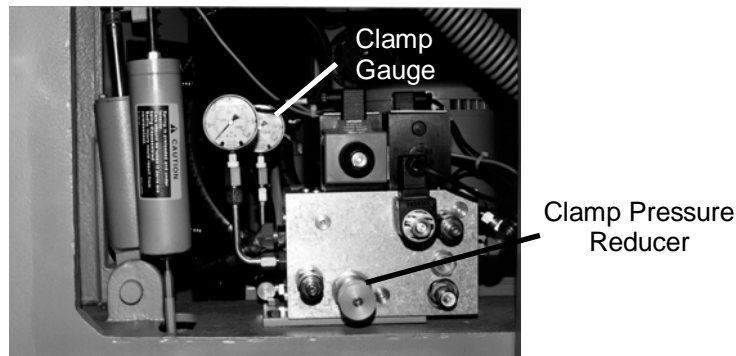

Figure 30
- Loosen the lock knob. There are two knobs, one behind the other, (Figure 30). The outer is the adjusting knob and the inner is the lock knob.